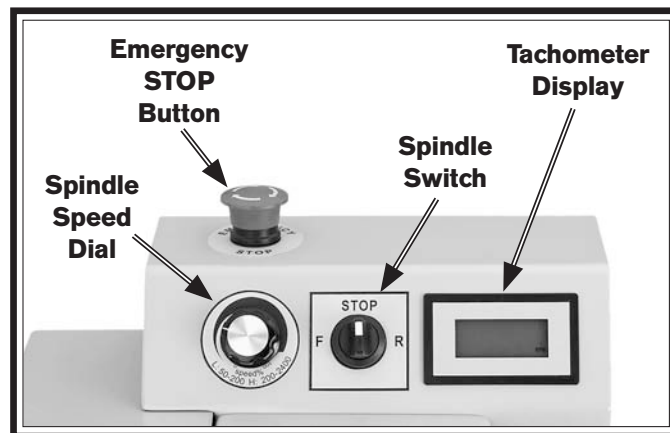

Figure 15. Control panel.
5. Push the emergency STOP button on the control panel (see **Figure 15**).